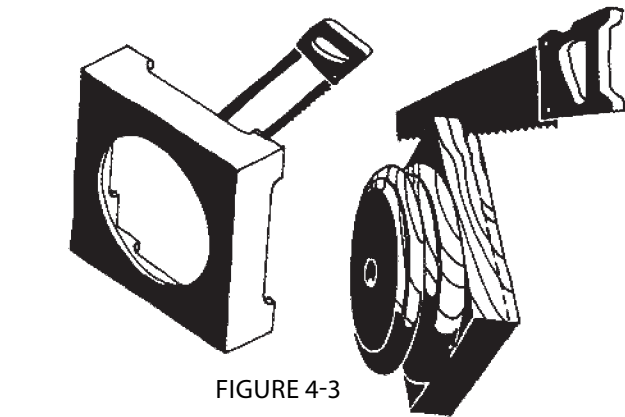

FIGURE 4-4
4. Predrill a minimum of four (4) holes in the plinth for attaching to the base. Then turn the base over and caulk the area where base and plinth meet. Attach plinth to base using 2-1/2" drywall screws (Fig. 4-4).